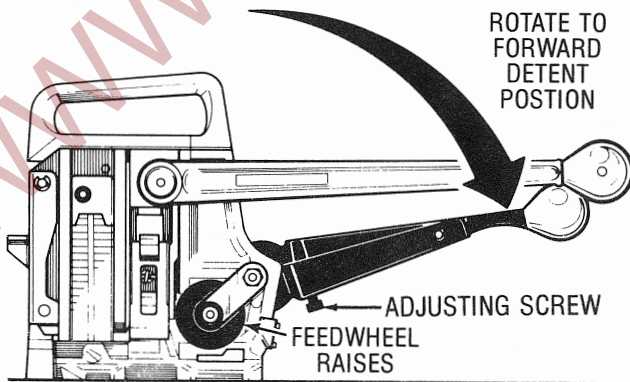

FIGURE NO. 1
1. Push TENSION CONTROL HANDLE (KEY #5) forward to its detent position. This will raise the FEEDWHEEL (KEY #26) for strap insertion. (SEE FIGURE NO. 1.)